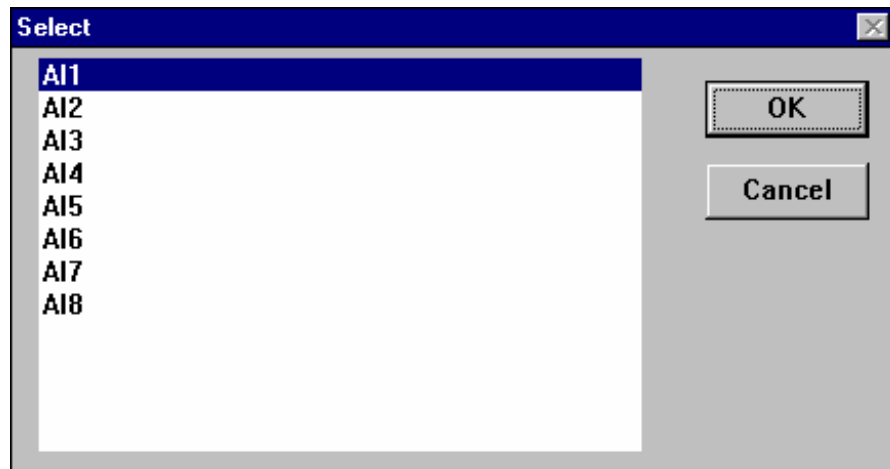

Figure 7-6: Select Item Dialog Box
6. Highlight a subcategory and click OK. A Select item dialog box appears (Figure 7-6).